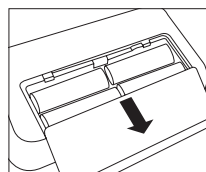

Fig. 1
- Open the battery cover on the bottom of the monitor (see Fig. 1). Insert the batteries (see Chapter 13 'Technical data'). Ensure correct polarity ('+' and '-') when inserting batteries. Close the battery lid. The monitor automatically switches to the date/time function, and when used for the first time, the display shows the number '31' for the day and '12' for the month. The date set is thus the 31st December. Set the date and time as described below.